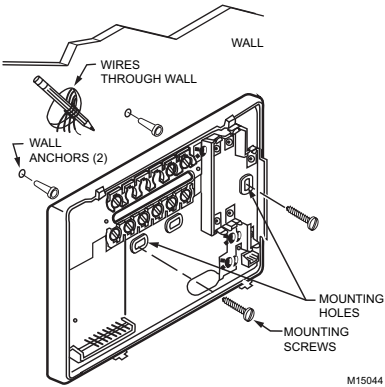

Fig. 2. Mounting the wallplate.
- 2. Use a pencil to mark the mounting holes. See Fig. 2.